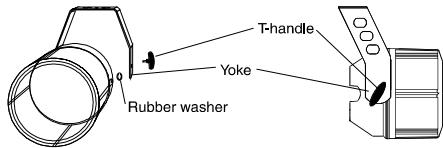

Figure 7. Yoke Attachment
9. Attach the yoke to the base using the rubber washers and T-handles as shown in Figure 7.